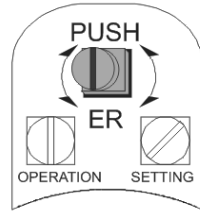
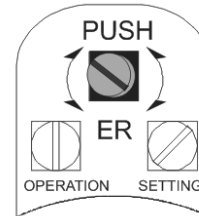

Figure 12.2-1
Figure 12.2-2
- Disengaged **PUSHER** shaft (Figure 12.2-2): With a suitable screwdriver press the **PUSHER** shaft 3 mm and turn it 45°, ensure that it does not return to its original height (Figure 12.2-1).
- Note: **PUSHER** shaft allow to engage/disengage the switching and signalling unit from Electric actuator gears. (Figure 12.2-1 and Figure 12.2-2).
- **ENGAGE **PUSHER** SHAFT:** Turn back **PUSHER** shaft. Check that goes back to its initial position (Figure 12.2-1). **This point is fundamental for the correct setting of the limit switches: Ensure that **PUSHER** shaft is correctly engaged.**
- **ENGAGE PUSHER SHAFT:** Turn back **PUSHER** shaft. Check that goes back to its initial position (Figure 12.2-1). **This point is fundamental for the correct setting of the limit switches: Ensure that PUSHER shaft is correctly engaged.**